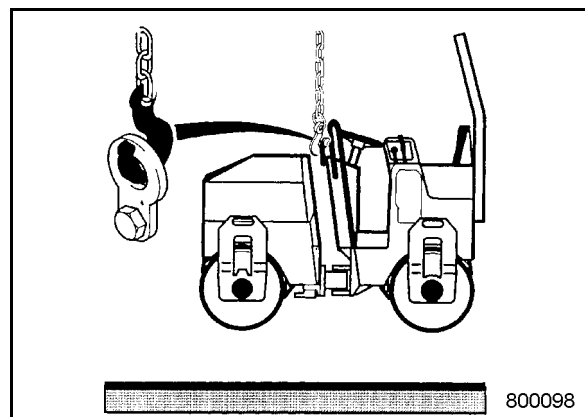

Fig. 75
- To lift the machine attach the lifting gear to the central lifting device (Fig. 75).